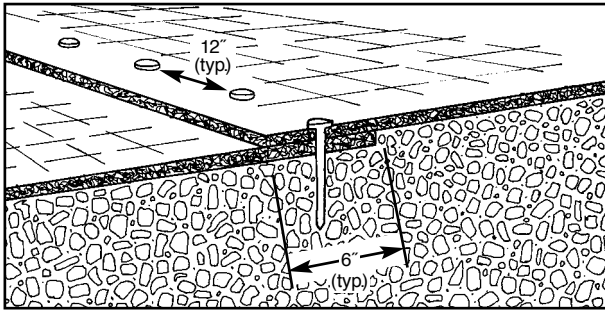

FIGURE 7 Overlap at roll edge
- Roll edge: 6 in (150 mm) minimum with upslope mat on top. Secure with one row of ground anchoring devices on 12 in (300 mm) minimum intervals (see Figure 7).